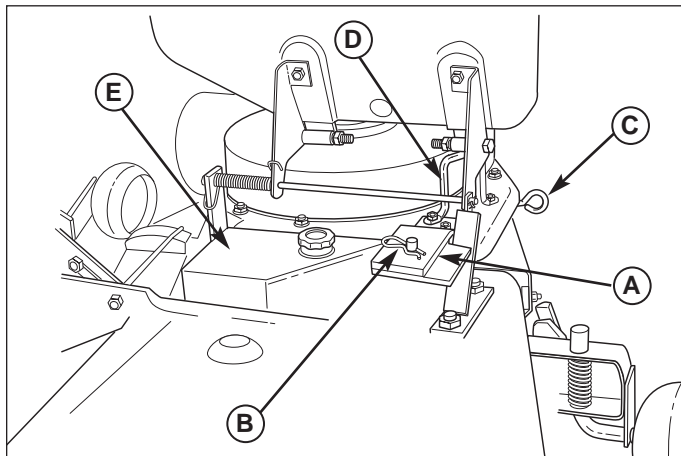

Figure 7. Mount Turbo
3. Slide turbo assembly as far rearward as possible so that the front turbo edge is tight against the front mower deck edge. Secure the turbo with the hair pin clip (B, Figure 7).
4. Move the idler release lever (C) to release belt tension.
6. Close the belt cover (E, Figure 7) and tighten the knob into the pal nut.